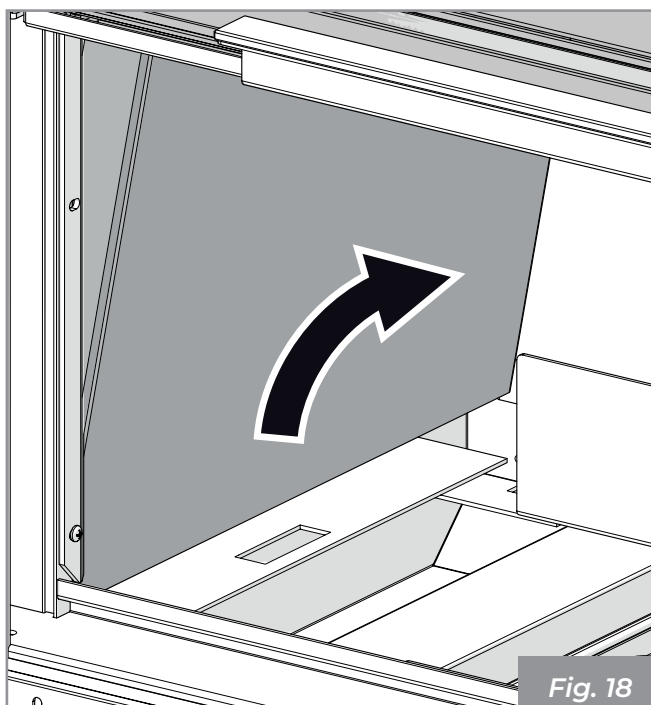

Fig. 18
2) Remove the side refractory being careful not to damage it (Fig. 18).